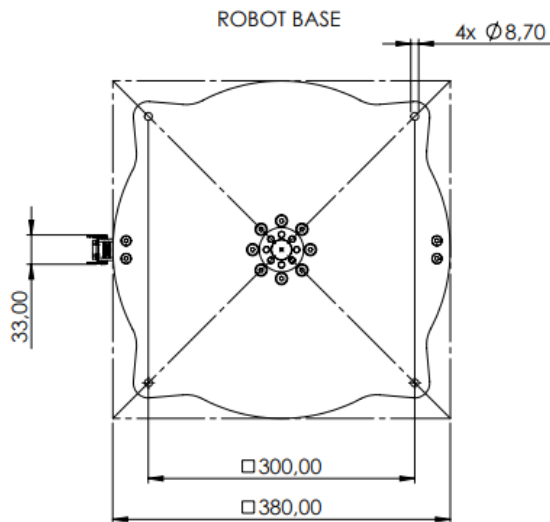

Fig. 5-3: Drilling pattern for robot base assembly
- ▶ Prepare the mounting surface according to the drilling pattern (see Fig. 5-3).